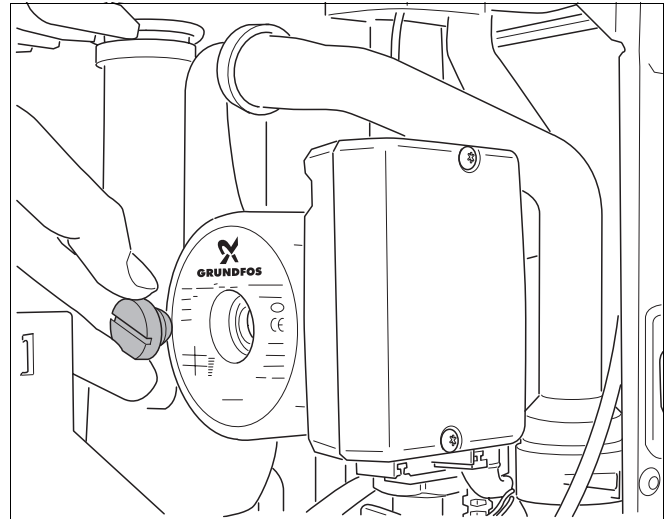

fig. 72 Checking the pump
- Remove screw plug on the pump (fig. 72).